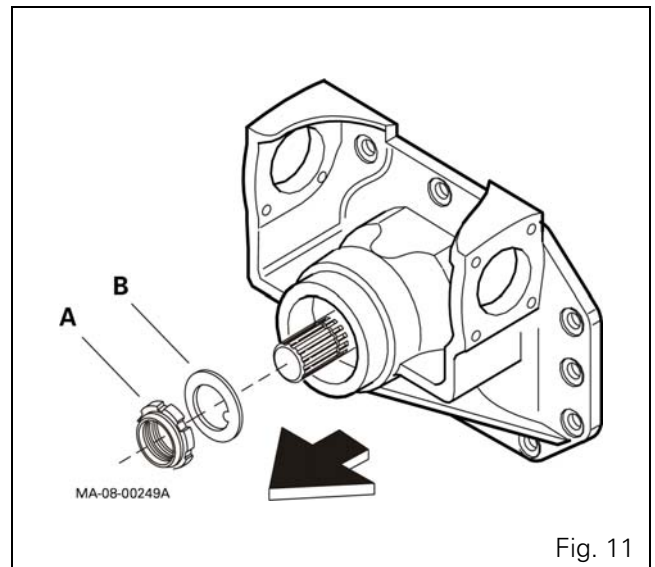

Fig. 11
15. Extract the nut A and recover the retaining washer B (Fig. 11).